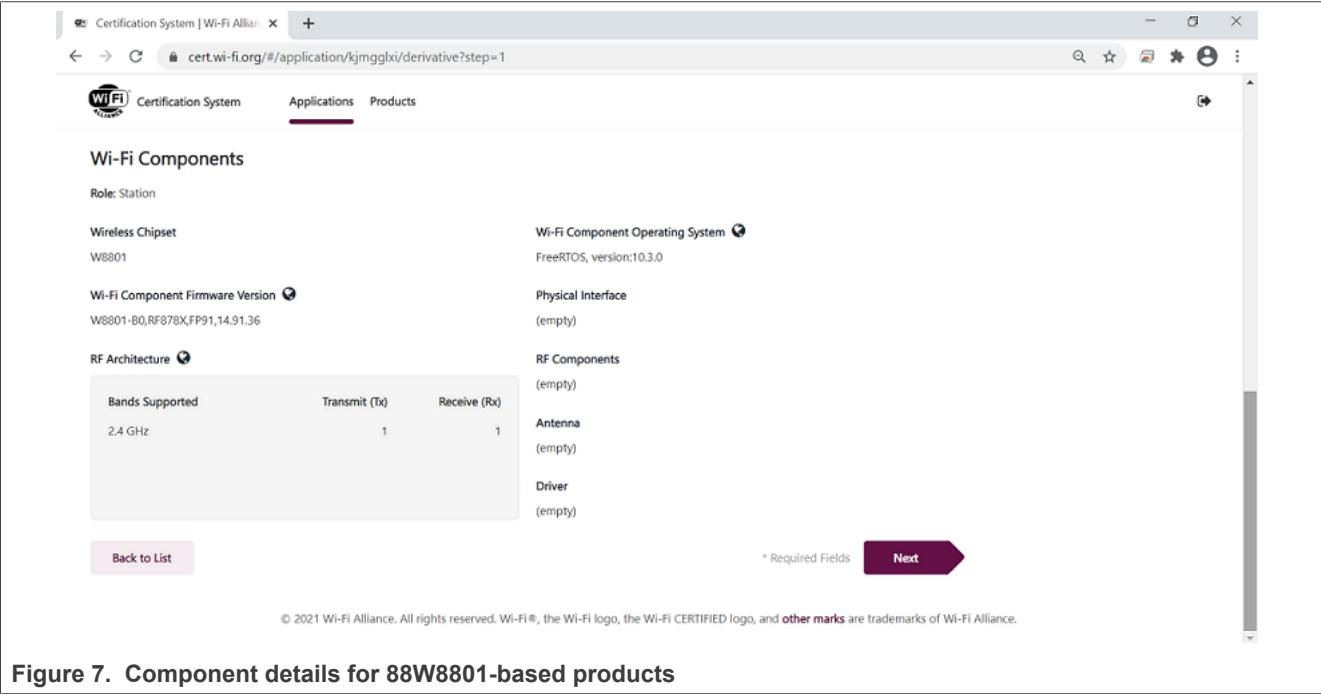

Figure 7. Component details for 88W8801-based products
- Verify the Wi-Fi component details. Figure 7 shows the details for a 88W8801-based product.